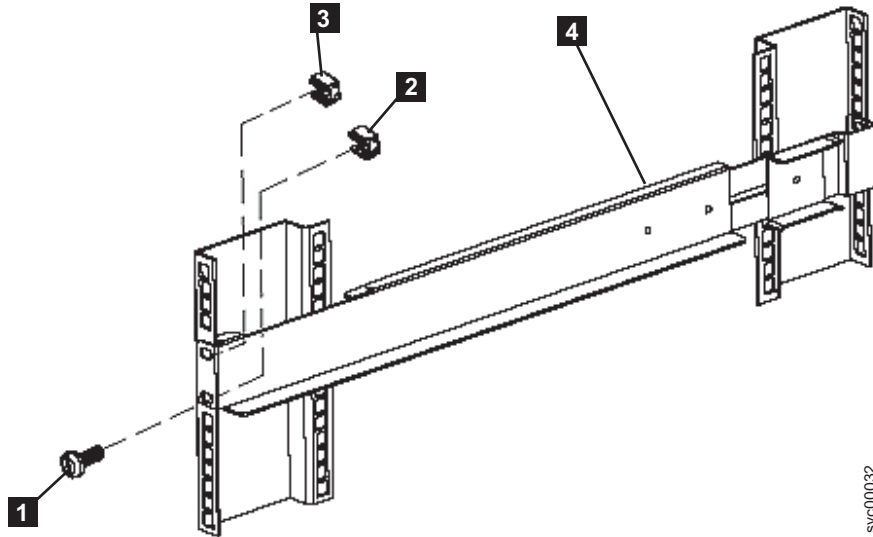

Figure 21. Securing the front rail on the 2145 UPS-1U
8. Attach only the bottom hole of the rail to the front of the rack with one M6 × 10 screw and one clip nut (**1** in Figure 21 on page 34).